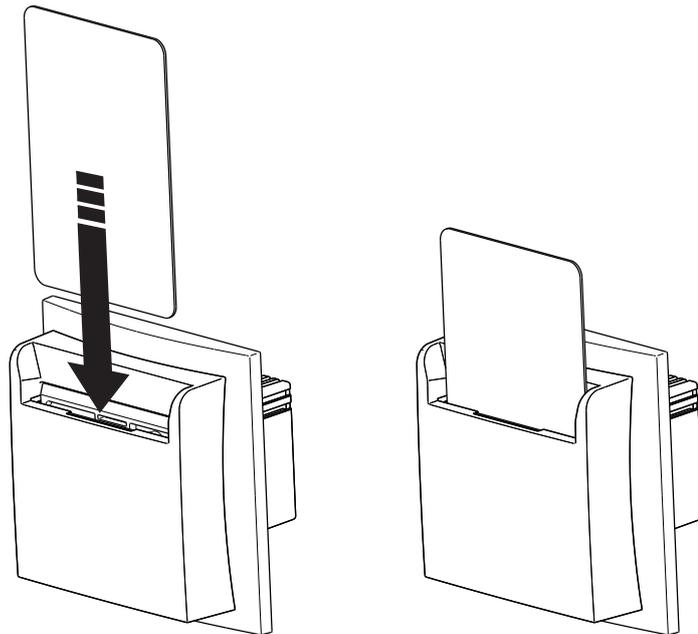

Figure 2
- Insert hotel card into the receptacle (Figure 2).